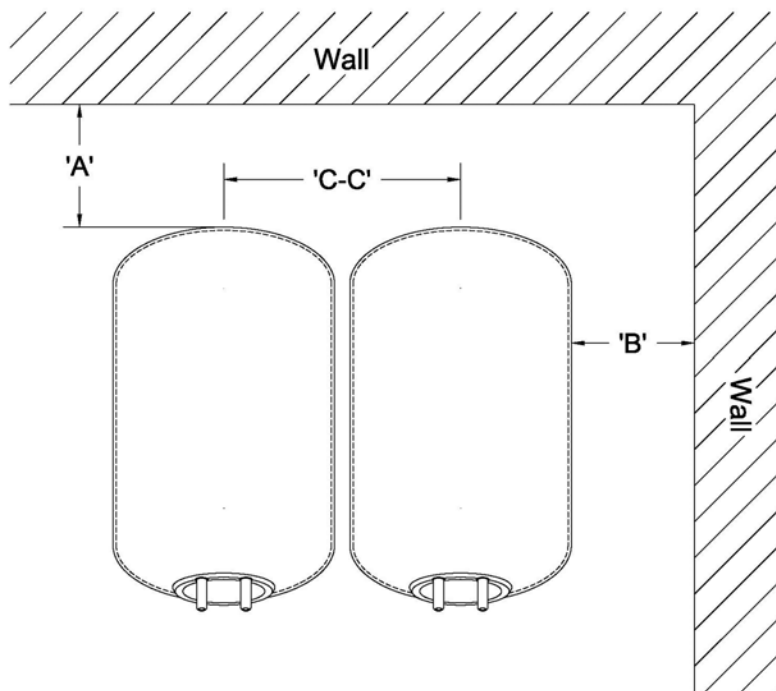

Figure 1
- Position the concrete slab so that the instructions, warnings and the pressure gauges on the system will be visible to the operator. It should be positioned so that the piping connections, manway, and drain are convenient and accessible for servicing and winterizing. If possible, ensure that the filter(s) are positioned to accommodate any rough plumbing that may have been previously installed. Dimensions 'A' and 'B' in Figure 1 (next page) give the minimum filter to wall clearance in order to maintain a 6" minimum clearance between the tank and the wall (or other equipment). These are only given as minimum distance guidelines. Tanks may be set up at larger clearances if desired.
IMPORTANT: If a pre-glued diaphragm valve face piping kit has been purchased, it is very important that the center to center ("C-C") of the tanks be held to the dimension listed in Figure 1. Failure to do so may cause the piping kit not to fit properly.